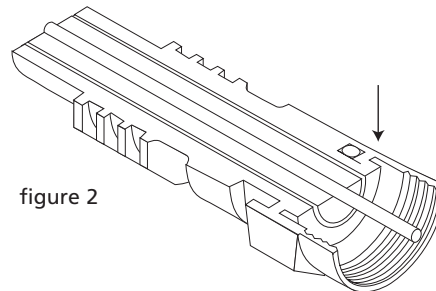

figure 2
- A) Push the connector onto the cable making sure that the white insulating material is flush with the bottom of the inside of the nut (the part that threads onto the splitter). (*figure 2 Arrow*)
- C) Using a cable cutter, trim the excess center conductor leaving it about 1/8" longer than the front of the nut. (*figure 2*)
- B) Continue twisting until the white insulating material is flush with the bottom of the inside of the nut (the part that threads onto the splitter). (*figure 2 Arrow*)
- D) Using a cable cutter, trim the excess center conductor leaving it about 1/8" longer than the front of the nut. (*figure 2*) Attach "F" connectors to ALL the video cables you have run to the Home Command Center.